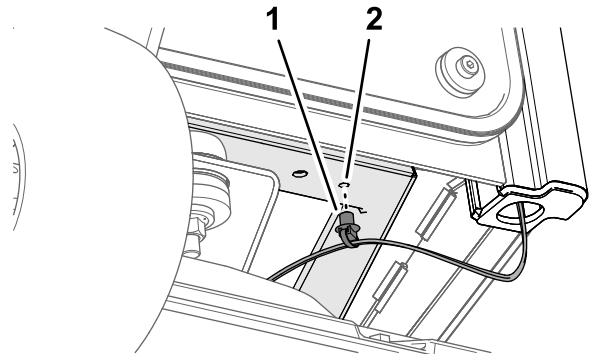

**Figure 24**
- For Groundsmaster 4010 and 4110 Series machines, secure the headlight branch of the platform harness to the cross tube with a cable tie as shown in Figure 24.